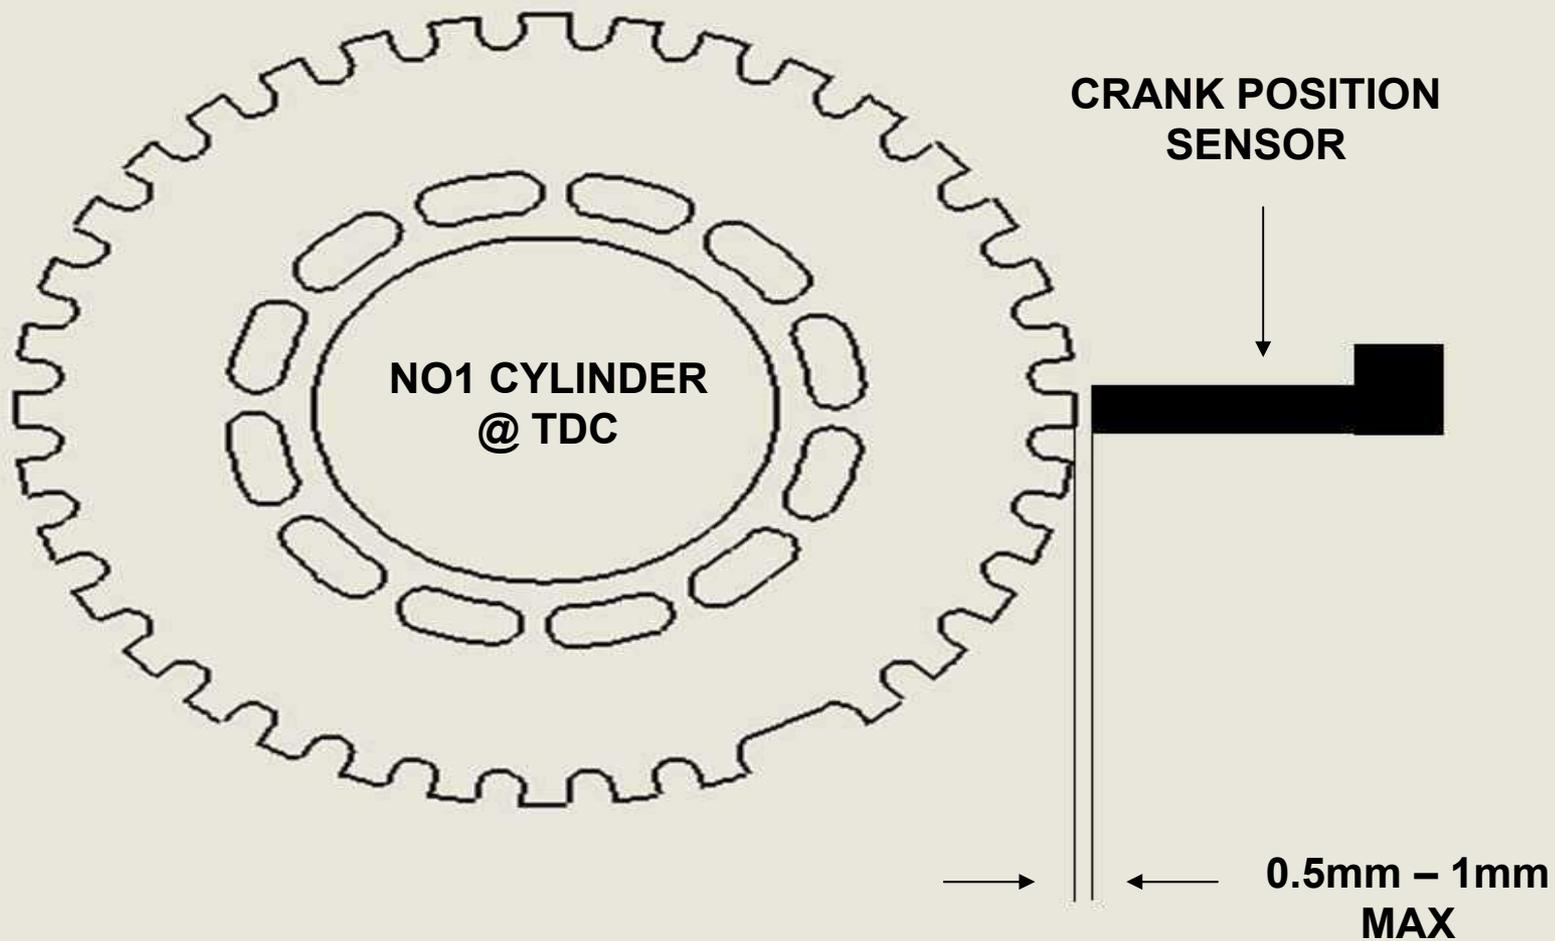

Fig. 3: TRIGGER WHEEL SETUP
6. Locate trigger wheel on central spigot on damper assembly ensuring the missing tooth is exactly 60 degrees or 6 teeth *after* the crank sensor centre point (clockwise rotation), Mark this position carefully with a scribe line and remove trigger wheel from damper. See Fig. 3.
8. Double check dowel/ roll pin location and position of missing tooth on trigger wheel. Ensure the engine is still located at TDC on No1 cylinder. (See Fig.3)
12. Rotate engine carefully whilst checking the clearance between the crank sensor and the edge of the trigger wheel teeth. The air gap between sensor and trigger teeth should be less than 0.5mm and run-out should not exceed 0.25mm. See Fig. 3.
14. Double check the adjustment of the crank sensor and sensor bracket. The crank sensor centre point should align with the centre of the 6th tooth *after* the missing tooth. (See Fig. 3)
10. Carefully trial-fit the damper/ trigger wheel/ balancing rim assembly on the crankshaft and adjust the trigger wheel position until the missing tooth on the trigger wheel is exactly 60 degrees or 6 teeth after the crank sensor centre point (clockwise rotation), Mark this position carefully with an accurate scribe line. See fig. 3.
11. Check that the engine is still positioned at TDC on No.1 cylinder and that the missing tooth is positioned 6 teeth after the crank sensor as in fig. 3. Check all scribe lines are correct.
13. Double check dowel/ roll pin location and position of missing tooth on trigger wheel. Ensure the engine is still located at TDC on No1 cylinder. (See fig.3)
18. Double check the adjustment of the crank sensor and sensor bracket. Rotate engine carefully whilst checking the clearance between the crank sensor and the edge of the trigger wheel teeth. The air gap between sensor and trigger teeth should be less than 0.5mm and run-out should not exceed 0.25mm. See Fig. 3.